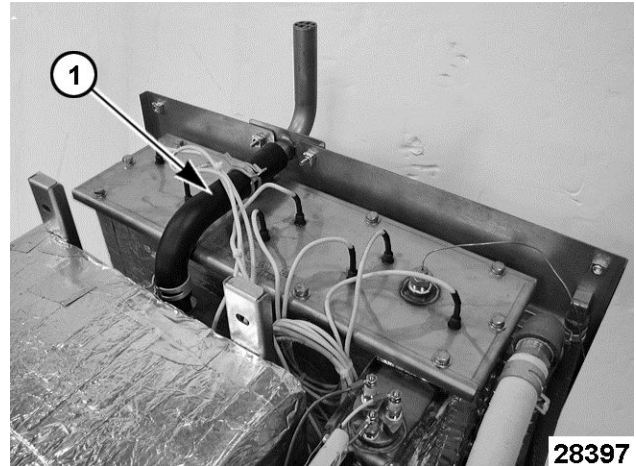

Fig. 50
4. Remove vent hose [1] Fig. 50 from sensor tube and vent tube.